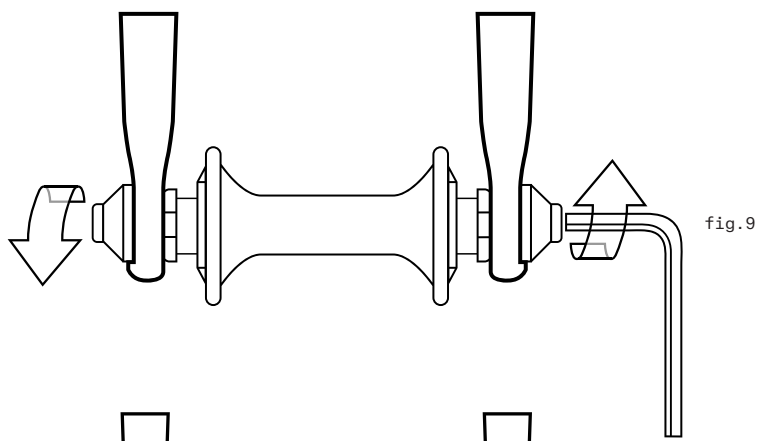

fig.9
2. A hollow axle with a shaft ("skewer") running through it which has a nut on one end and a fitting for a hex key, lock lever or other tightening device on the other (through bolt, fig. 9).